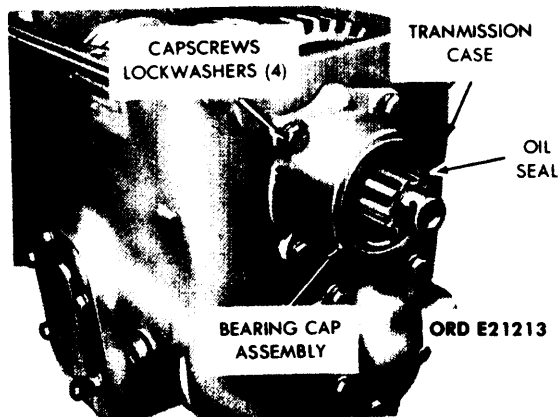

Figure 3-22. Removal of Mainshaft Rear Bearing Cap Assembly.
d. *Mainshaft Rear Bearing Cap Assembly.* Remove the four capscrews and lockwashers securing the bearing cap assembly to the transmission case. (See fig. 3-22.) Remove the bearing cap assembly, spacer, and gasket. Discard the gasket.